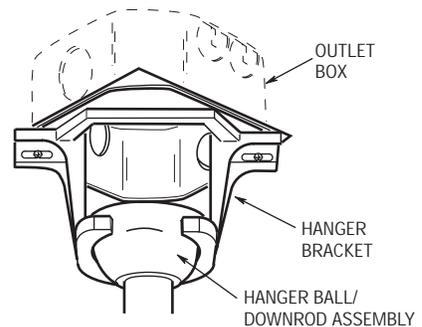
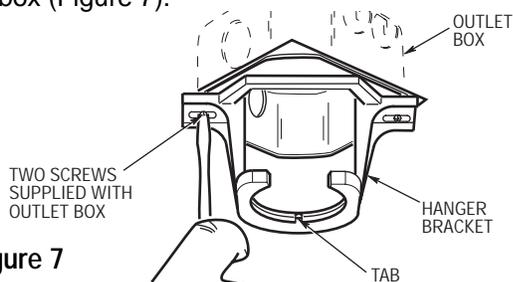

Figure 8
Figure 7
2. Carefully lift the fan from the foam pad and seat the hanger ball/downrod assembly on the hanger bracket that was just attached to the outlet box (Figure 8). Be sure the groove in the ball is lined up with tab on the hanger bracket (Figure 7).
1. Securely attach the hanger bracket to the outlet box using the two screws supplied with the outlet box (Figure 7).